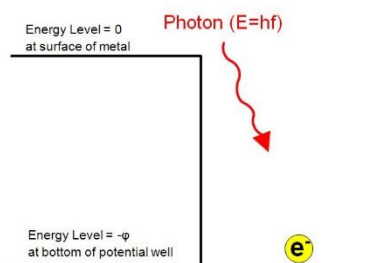

Figure 1A: Photon strikes the surface of the metal.
The electrons in a metal are in potential energy wells (see Figure 1A). When light shines on the metal, the energy of the photon is absorbed by the electron and converted into potential energy and kinetic energy. If the photon has sufficient energy to raise the electron out of the potential well, the electron will be ejected from the surface of the metal with kinetic energy (K) equal to the difference between the photon energy (E) and the depth of the potential well ( $\phi$ , the work function of the metal)(see Figure 1B).